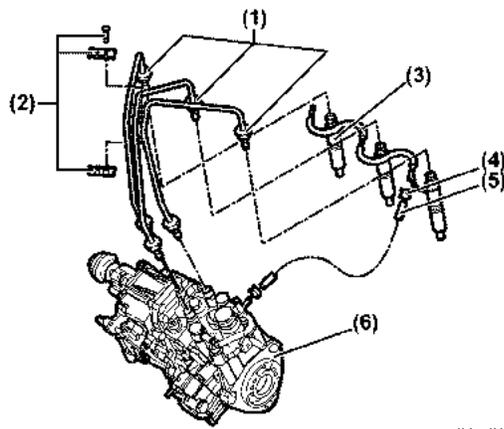
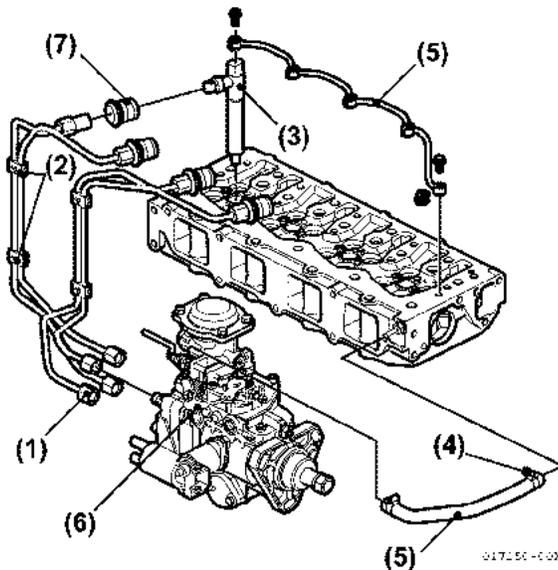

Figure 6-13
Figure 6-14
7. Install the fuel injection lines (Figure 6-13, (1)) and (Figure 6-14, (1)). See *Installing Fuel Injection Nozzles* on page 6-13.
8. If removed, install clamp(s) (Figure 6-13, (2)) and (Figure 6-14, (2)).
9. Install injection nozzle return fuel lines (Figure 6-13, (4)) and (Figure 6-14, (4), (5)). See *Installing Fuel Injection Nozzles* on page 6-13.
10. 4JH4-TE and 4JH4-HTE: Install pipe seal (Figure 6-14, (7)).